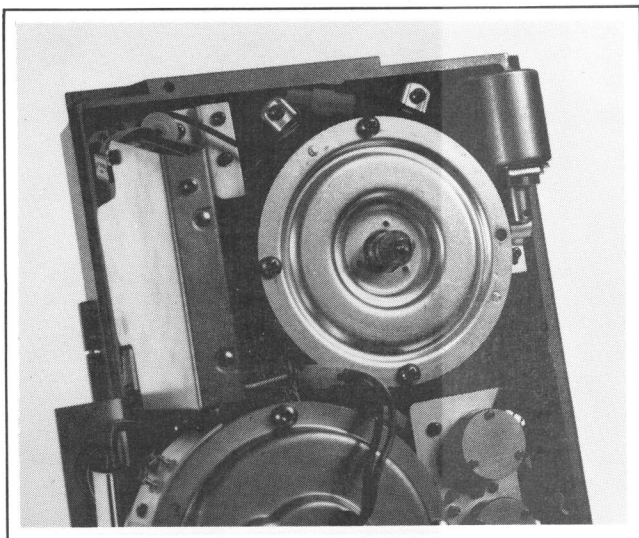

Figure 5-44. Reel Motor Base Mounting
- l. Mount the new motor base temporarily to the transport (see Figure 5-44).